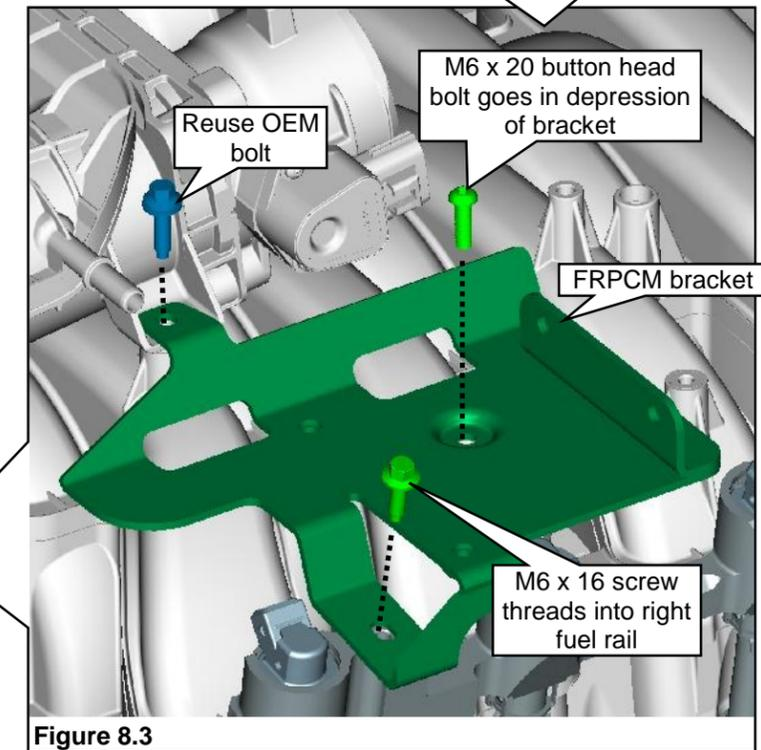

Figure 8.3
2. Position the FRPCM mounting bracket to the engine. **Figure 8.3.** Install the OEM throttle body adapter bolt, the button head bolt in the depression of the bracket and a third bolt at the rear of the bracket into the right fuel rail. Tighten bolts to 8–12 Nm.